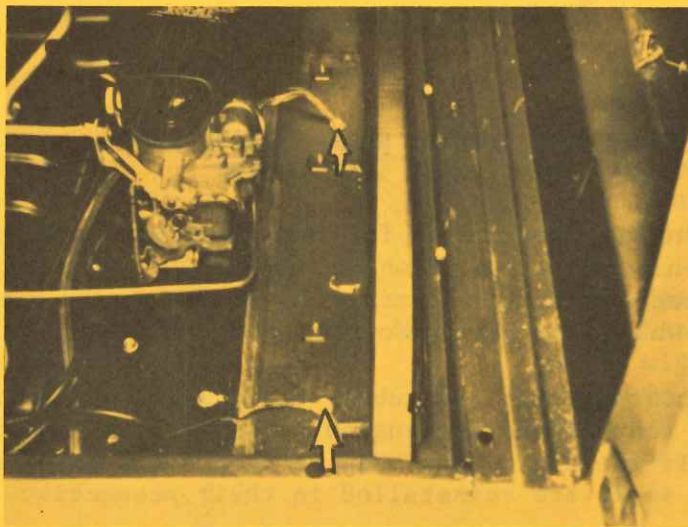

FIGURE 6
8. Inspect the radio ground strap bolts, shown in Figure 6, on vehicles equipped with factory-installed radios. The possibility exists that the attaching holes may not be drilled completely through the engine side rail and the seal retainer. If the seal retainer is not drilled, an opening in the seal will result when the seal is installed.